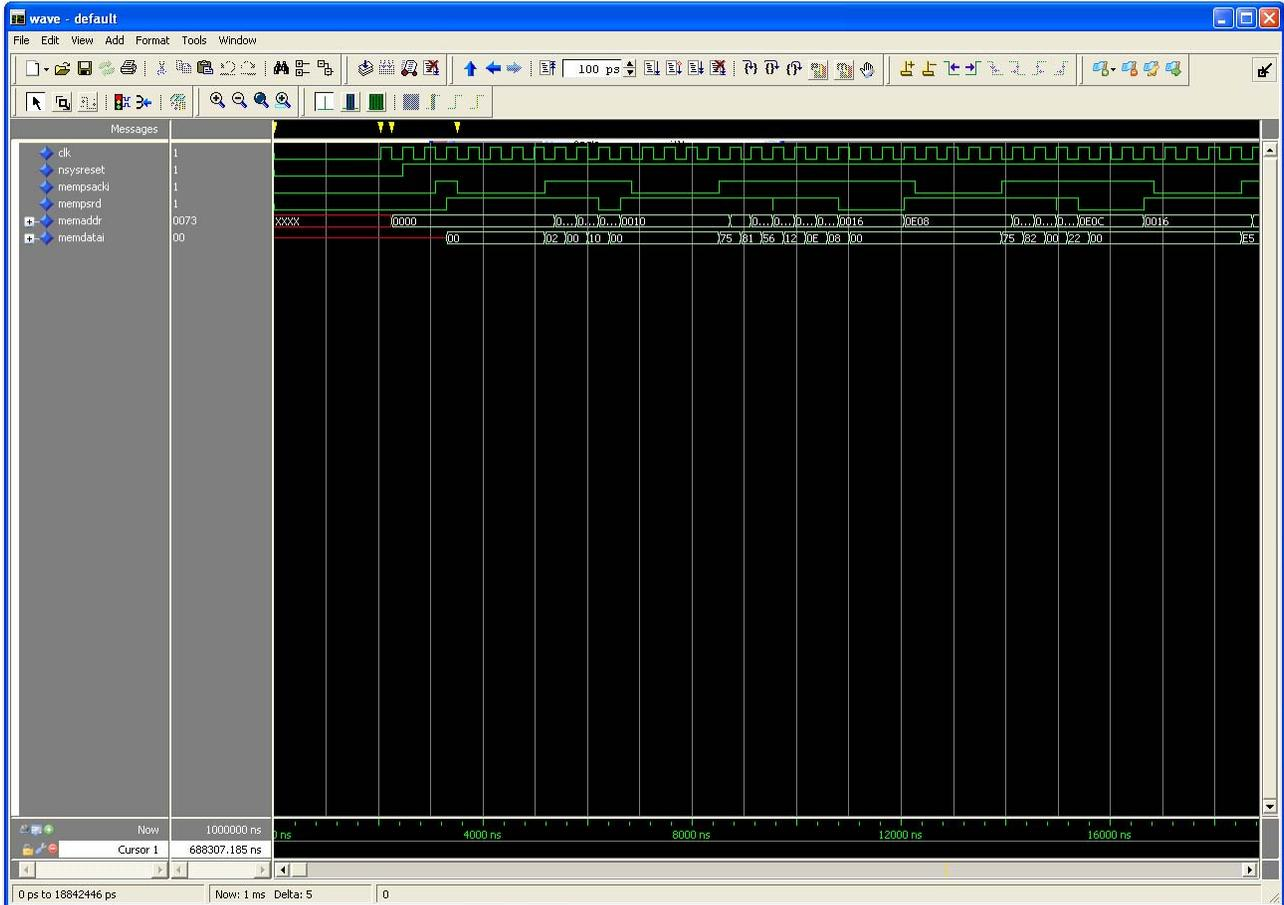

Figure 3-3 · Simulation of CPU Instruction Fetches
- Undock the waveform window by clicking on the undock button in the waveform window. This is the icon with the box and upper right arrow. In the resulting waveform window (Figure 3-3), click **File > Save Format**. Click **Waveform formats** in the Save Contents box. Click **OK** (click **Yes** if prompted to overwrite).
Note: In Figure 3-3, the path names for the signals have been suppressed by setting the Display Signal Path to one element.